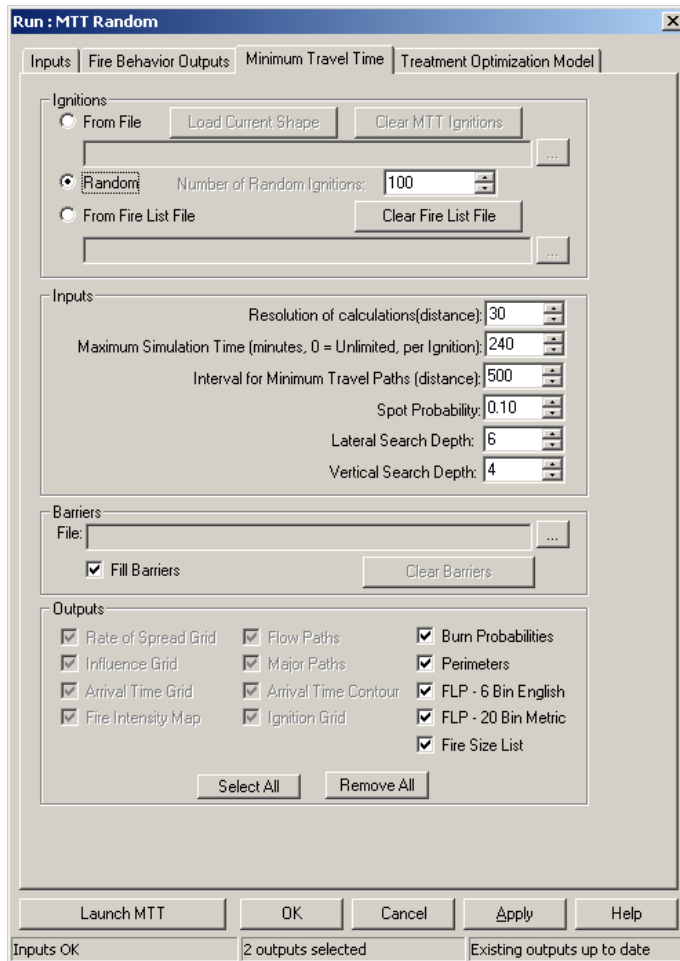

Figure 4-49—MTT random ignition MTT options.
3) Select the **Minimum Travel Time** tab (fig. 4-49).